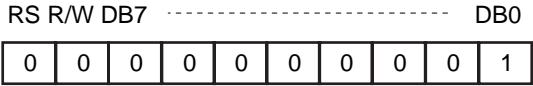

Figure 5 Clear Display Instruction
The clear display instruction (Figure 5) writes space code (20)H (character pattern for character code (20)H must be a blank pattern) into all DDRAM addresses. It then sets DDRAM address 0 into the address counter. It also sets I/D to 1 (increment mode) in entry mode.